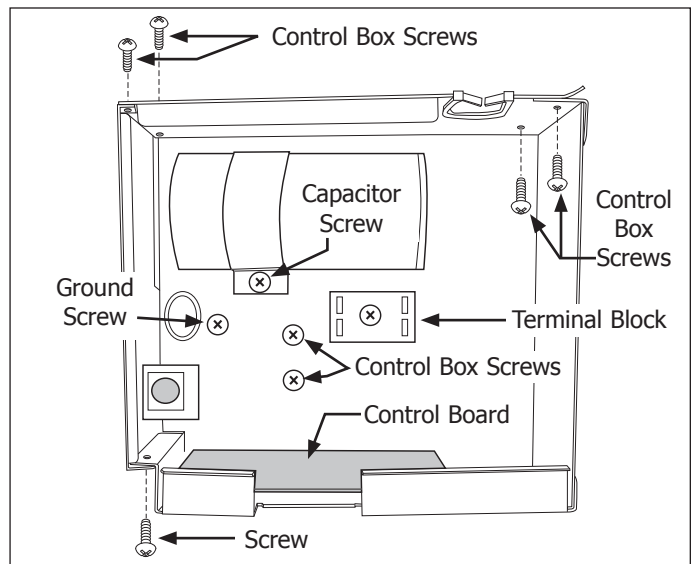

Figure 4-59.
4. Extract the screw securing the retaining band to bottom of control box. (See Figure 4-59)
8. Extract ground screw securing green wire to bottom of control box. (See Figure 4-59)
10. Extract screw securing terminal block to bottom of control box. (See Figure 4-59)